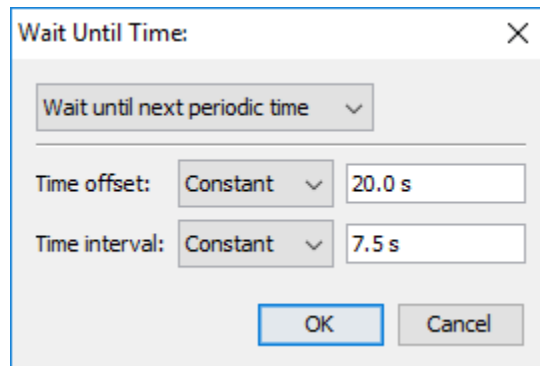

Figure 112. Wait Until Time dialog
2. Click the time to edit the value, which will show the **Wait Until Time** dialog as shown in Figure 112.